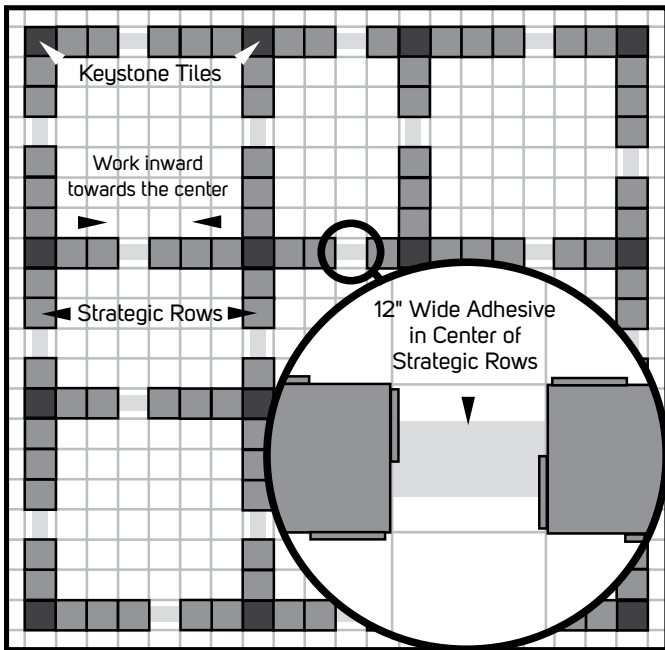

Fig. 6
- b) Install strategic rows of tiles beginning at opposite ends of the keystone tiles working inwards towards the center (**Fig. 6**).